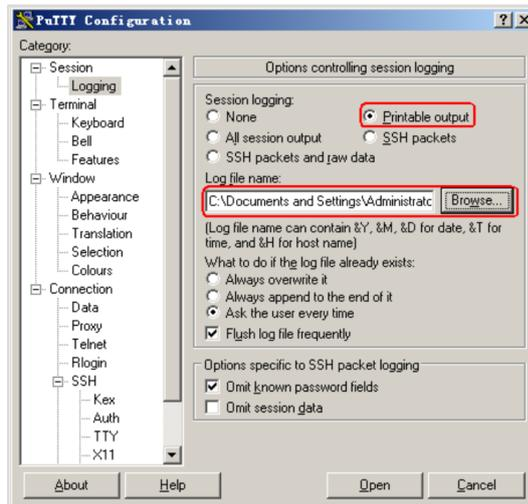

Figure 6-1 PuTTY Configuration
- Step 2 (Optional) To record operation logs, choose **Session > Logging** in the navigation tree on the left. In the Session logging area, select Printable output. In the Log file name area, set the directory for storing operation logs, as shown in Figure 6-1.